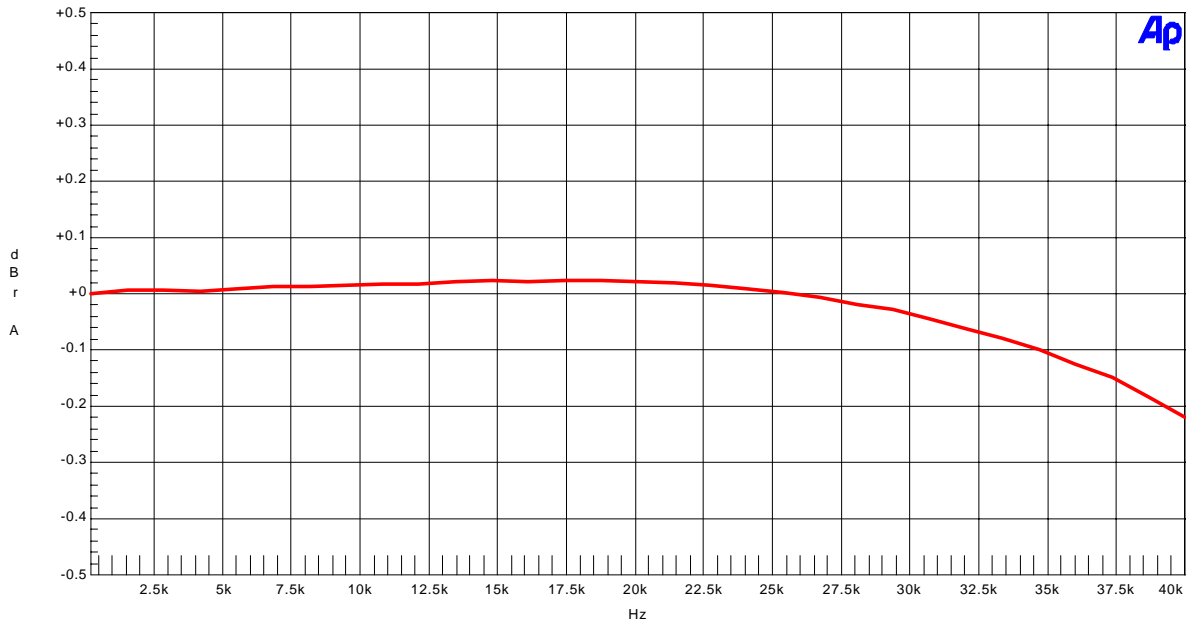

Figure 18. Frequency Response (fs=96kHz; 0dBFS input) including external 2nd order LPF response
- Figure 18. Frequency Response (0dBFS input)